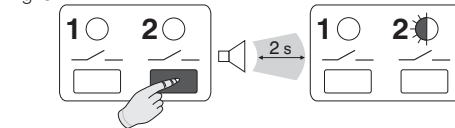

Fig. 8
- Repeat the operation for the other channels to pair (fig. 8).